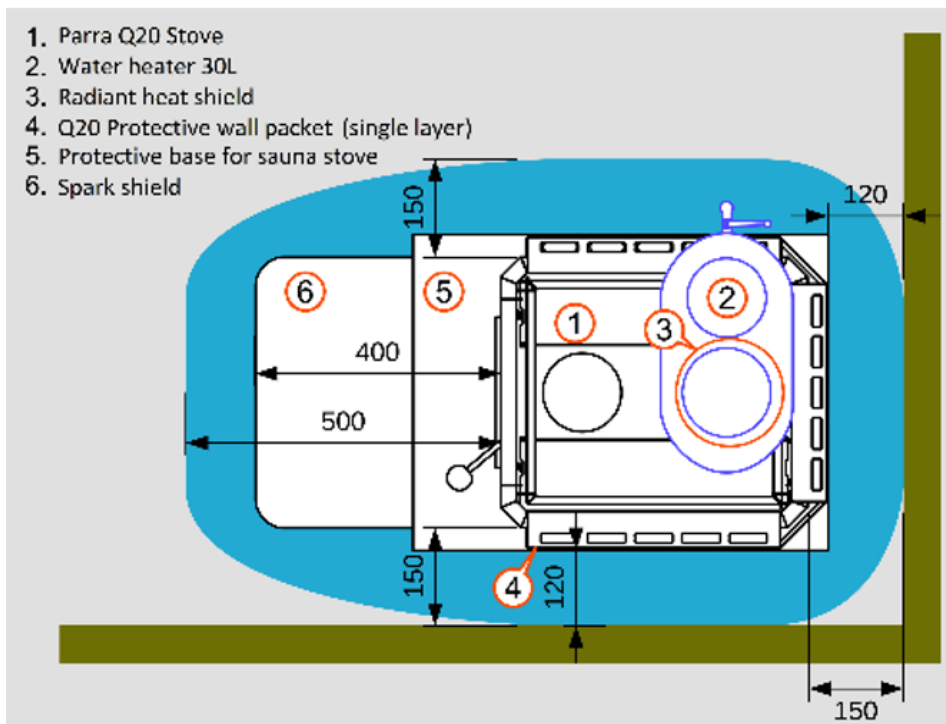

Figure 5: Parra Q20 stove safety distances with single layer protective mantle + radiant heat shield tube
**) Can be reduced to 150 mm by using the U-shape (single layer) protective mantle of the Parra Q20 stove which is available as an accessory. (Pls. see figure 5 in next page)
Alternatively, the Parra Q20 stove can also be used with the optional single layer protective mantle, that can be installed on the stove, with which the protective distance to the side and back is at least 150 mm measured from the surface of the stove (i.e. 120 mm from the surface of the protective mantle), pls. see figure 5.